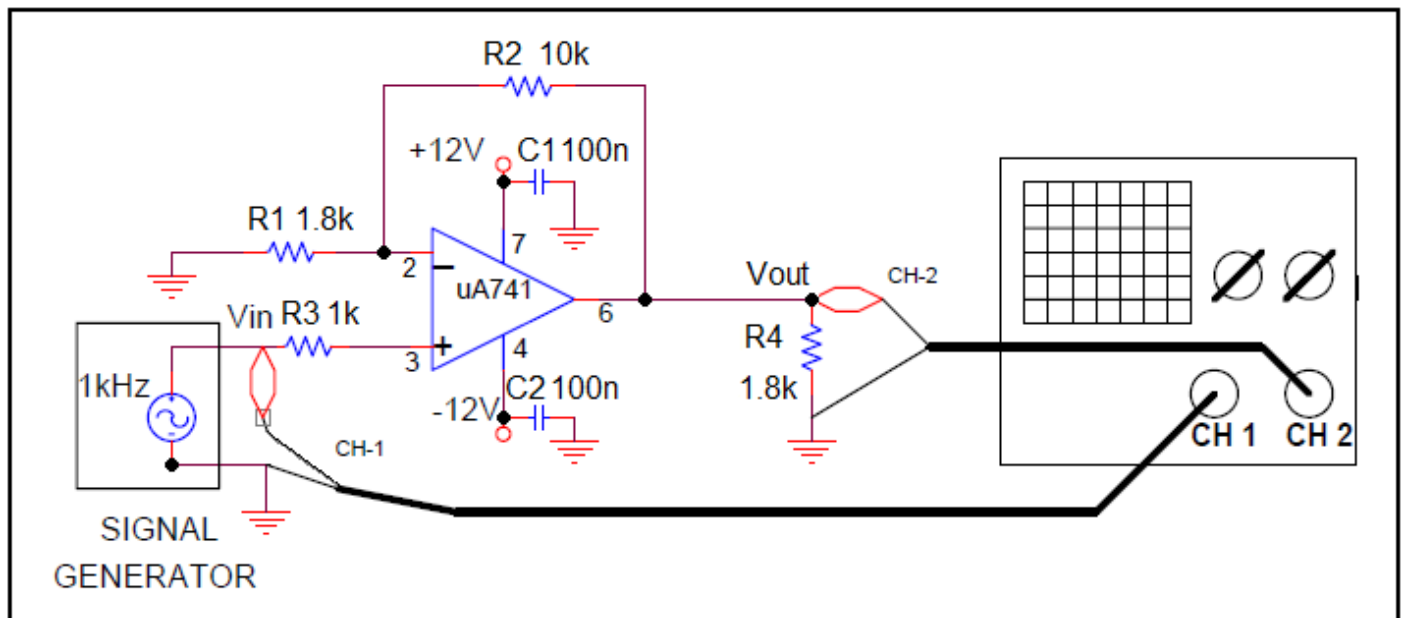

Figure 5 Measurement circuit for non-inverting amplifier
1.1. Build the circuit of Figure 5 using an 8-pin uA741 (УД708) op-amp with $R_1 = 1.8\text{k}\Omega$ and $R_2 = 10\text{k}\Omega$. To achieve better circuit stability, connect 100nF capacitors between pins #4 and #7 of the uA741 and the Ground, as shown in Figure 5.